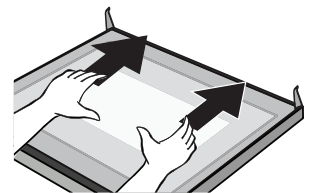

Figure 3
3.) Place the door flat with door top cover facing up; put your hands on the glass and push it towards the door brackets (Figure 3).